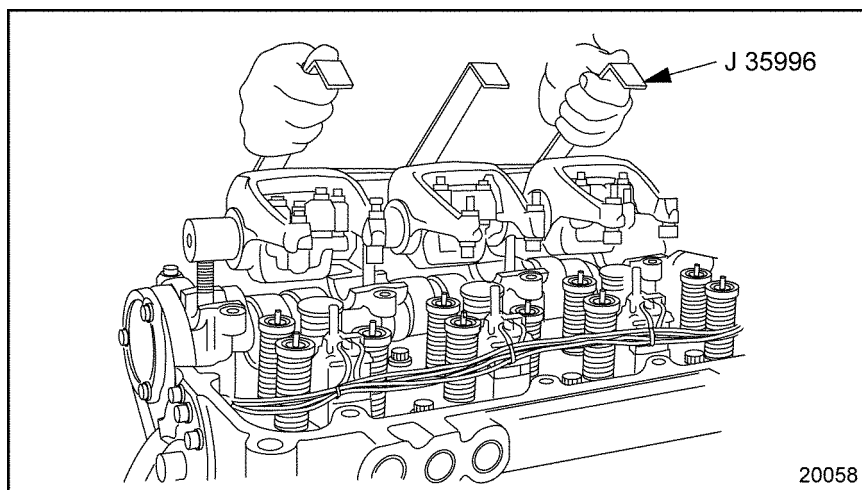

Figure 10-3 Rocker Arm/Shaft Assembly Removal/Installation
5. Remove the three rocker shaft mounting bolts and nut from the front rocker shaft assembly. Using removal tool (J-35996-A), see Figure 10-3, lift the assembly straight up and off of the head and place in a clean area on the bench.